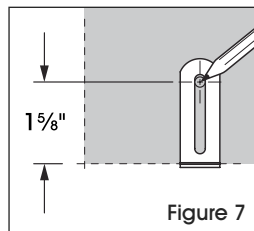

Figure 7
2. Remove board and mark wall 1 5/8" from bottom of L-Brackets. (See Figure 7)